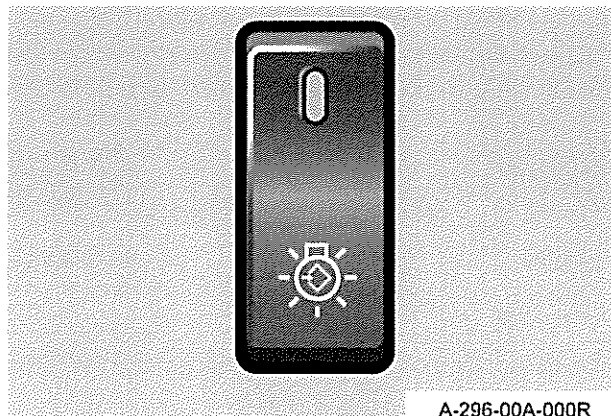

Fig 49 Lighting learning routine rocker switch
- 120.3 Refer to Fig 49. Press the bottom of the light test switch.